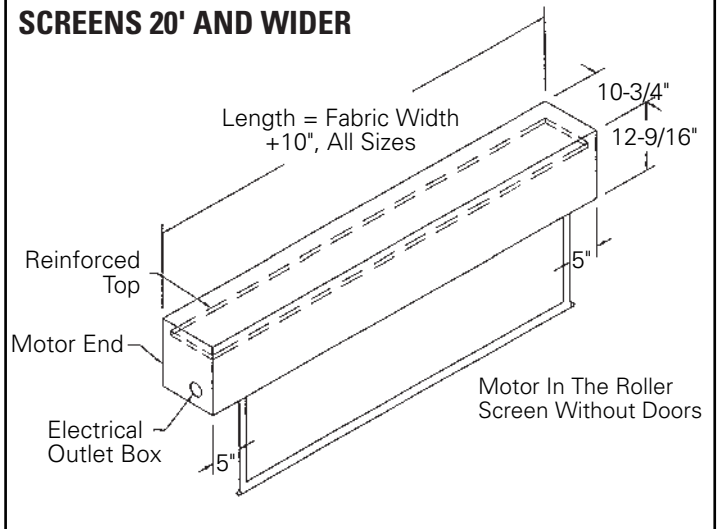

**FIGURE 3**
2. Remove wrapping paper and tape strips (Fig. 3).
2. When the screen stops, turn the white "down" limit knob (Fig.3) one-quarter turn counterclockwise. Test by raising picture surface approximately two feet, then lower again. Repeat until desired picture surface position is attained.
3. Turn the white "down" limit switch (Fig. 3) one-quarter turn clockwise. Test by raising picture surface approximately two feet, then lower again. Repeat until desired picture surface position is attained.